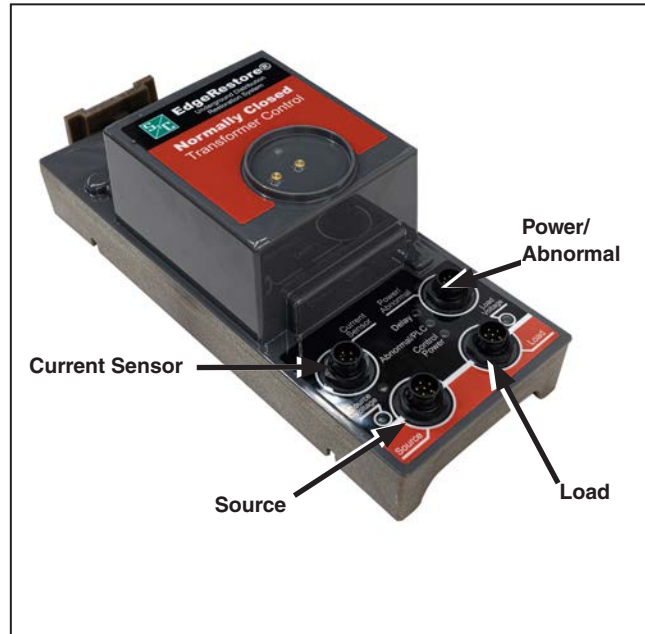
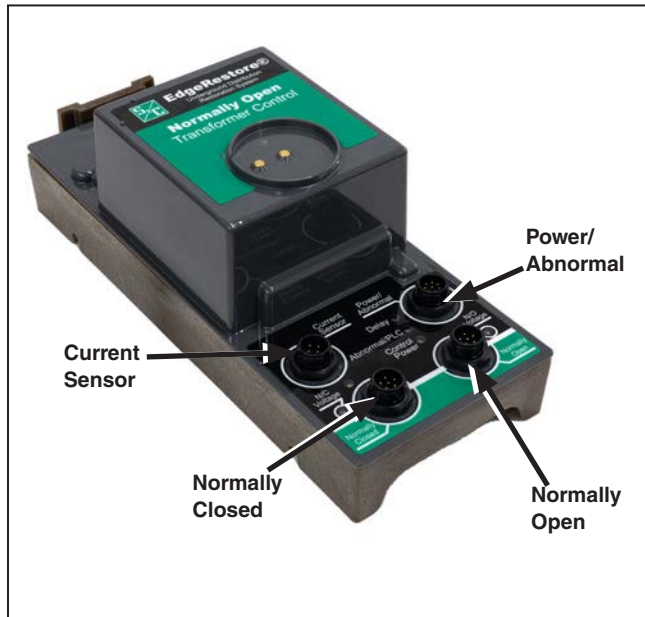
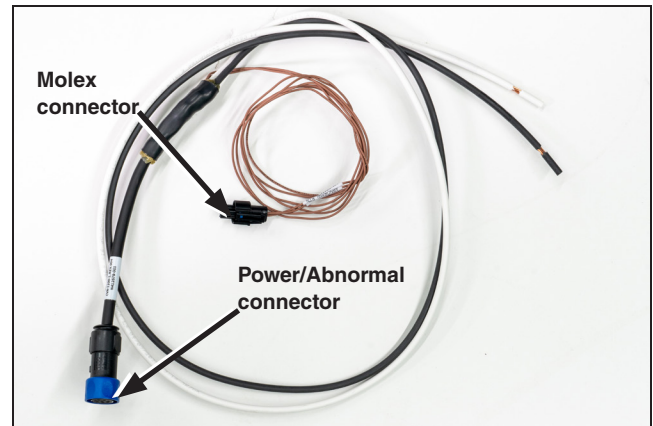
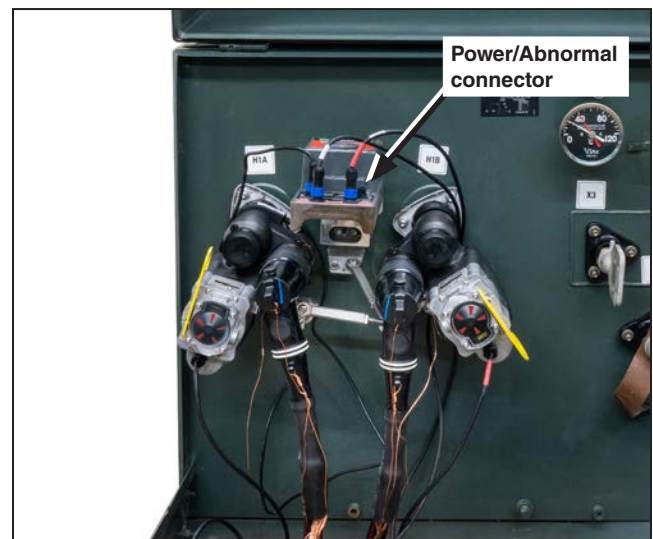

Figure 49. Control connections. A normally closed control shown.
Figure 50. Control connections. A normally open control is shown.
Figure 51. The power connector and Molex connector.
Figure 52. Completed control connections. A normally closed control is shown.
- STEP 4.** Connect the current sensor connector to the control's four-pin connector labeled "Current Sensor." See Figure 49 and Figure 50 on page 30.
- STEP 1.** Connect the control cable on the bushing well interrupter connected to the source (utility) side to the six-pin connector labeled “Source.” See Figure 49.
- STEP 2.** Connect the control cable on the bushing well interrupter connected to the load (toward the normally open transformer) to the six-pin connector labeled “Load.” See Figure 49.
A complete installation is shown in Figure 52 on page 31.
- STEP 2.** Connect the control cable on the normally open bushing well interrupter to the “Normally Open” six-pin connector. See Figure 50.
A complete installation is shown in Figure 52 on page 31. A normally closed control is shown, but a normally open one is similar.
Plug the six-pin connector into the Power/Abnormal connector on the control. See Figure 49 on page 30, Figure 50 on page 30, and Figure 51 and Figure 52.
A Molex 2042200002 connector is available to connect the control to monitoring systems that can detect a dry contact that indicates whether the control is in an **Abnormal** state. If the control won't be connected to remote monitoring, leave the connector and wire coiled, as shown in Figure 51. For more information, contact the local S&C Sales Office.
- Make sure the control cables from the H1A and H1B bushing well interrupters are connected to the control based on the direction of current flow (load or source for normally closed controls, normally open or normally closed for normally open controls) through the transformer. There is a red band on the H1B control cable to help differentiate the cables when making connections to the control. See Figure 49 on page 30 and Figure 50 on page 30.
- Make sure all cables have been trained away from where the enclosure cover engages with the enclosure. See Figure 52 on page 31.